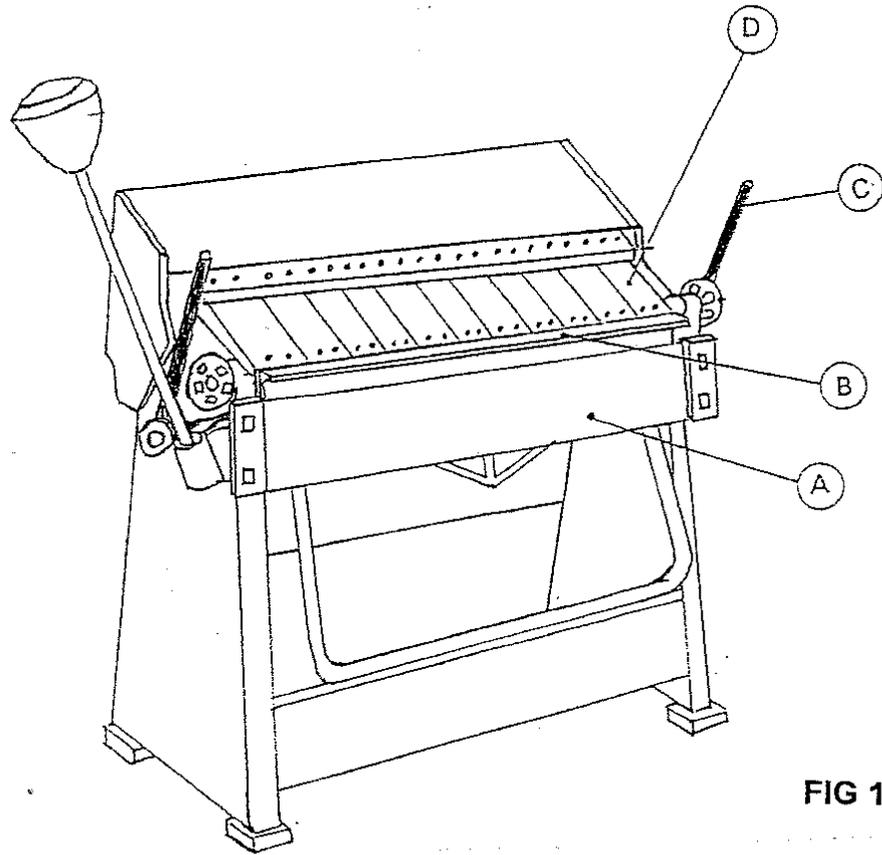

FIG 1
- 1.3 FIGURE 1, DIAGRAM SHEET 1 shows a drawing of a box and pan-folding machine.